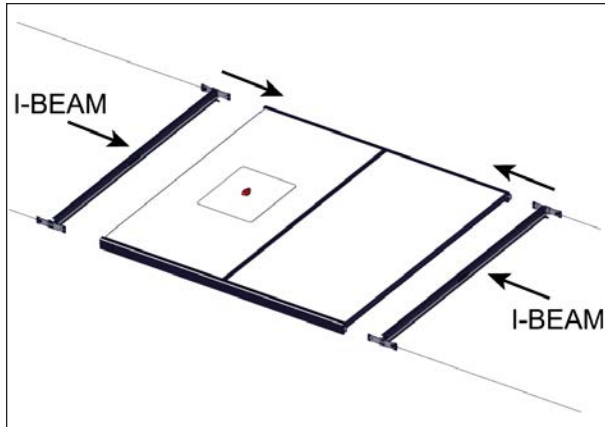
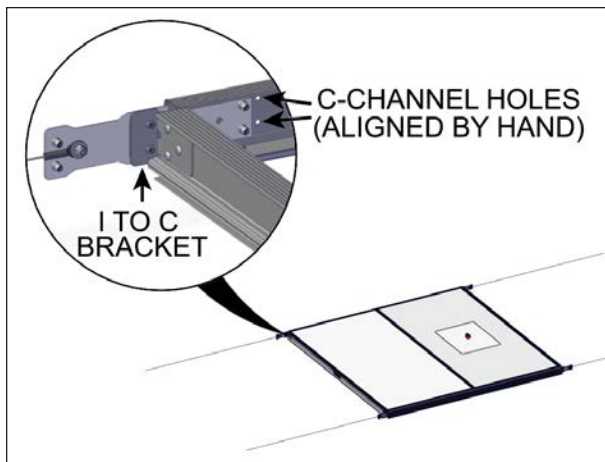

FIGURE 32: INSTALL BOTH I-BEAMS WITH LONG I TO C CONNECTION PLATES
FIGURE 33: I-BEAM WITH LONG I TO C CONNECTION PLATE
9. Install both I-Beams with the long I to C connection plates in such a manner that the bent portion of the I to C bracket is pointing outwards, see Figure 32 and Figure 33.
10. Align by hand the C-channels (left and right sides) in such a manner that the I to C connection plate holes are visible behind the C-channel, see Figure 33.